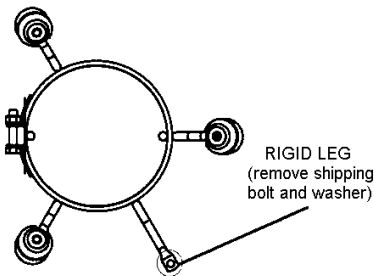

Figure 11.
**NOTE:** Units with a 1/2 hp blower motors are equipped with three flexible legs and one rigid leg. The rigid leg is equipped with a shipping bolt and a flat white plastic washer (rather than the rubber mounting grommet used with a flexible mounting leg). See Figure 11. The bolt and washer must be removed before the furnace is placed into operation. After the bolt and washer have been removed, the rigid leg will not touch the blower housing.